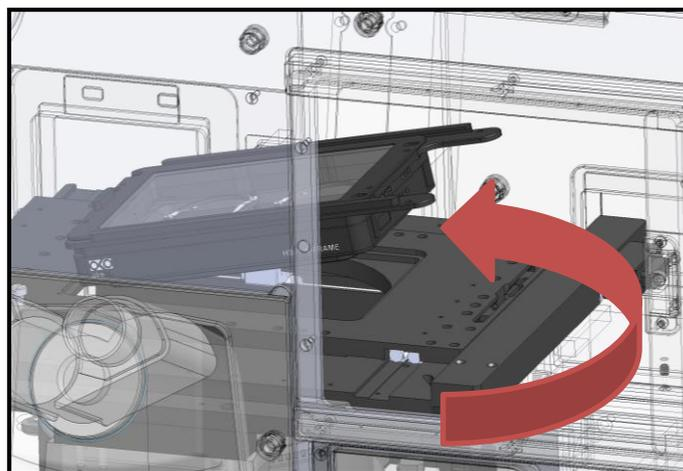

Figure 69. Chamber Incubator insertion inside the enclosure
- G. **Chamber Incubator insertion inside the enclosure.** You can insert the chamber incubator on the stage before mounting the frontal panel or after have mounted the frontal panel simply opening the slide door on the left or on the right panel of the enclosure. See Figure 69.